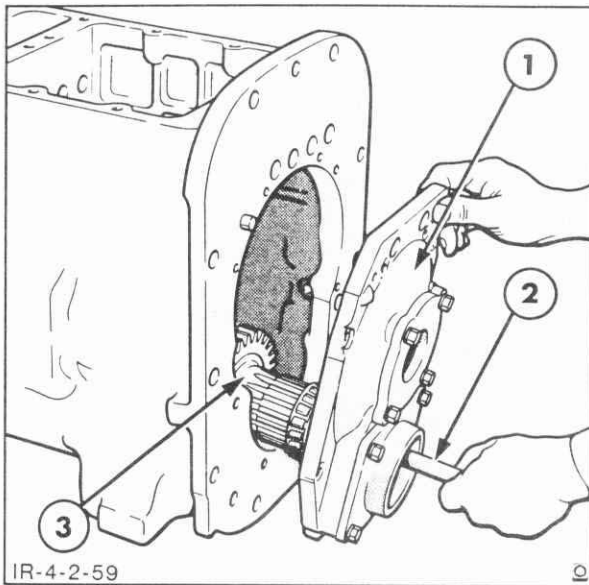
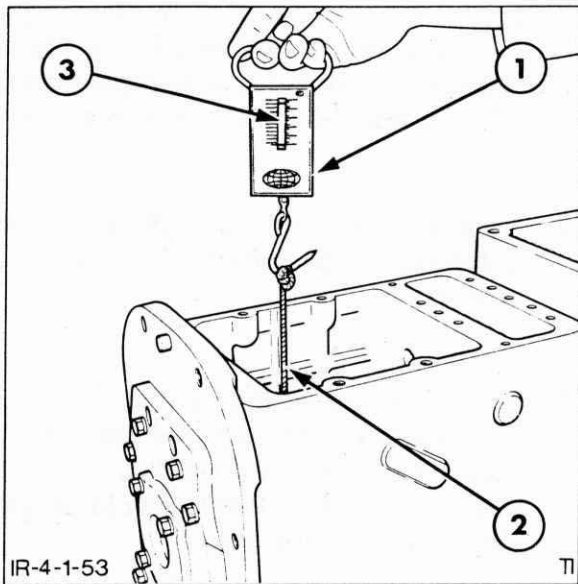

Figure 4-153
Figure 4-154
5. Insert a suitable rod through the bearing cap hole and into the countershaft assembly, Figure 4-153.
9. Using a suitable length of cord and a pull scale as shown in Figure 4-154, wrap the cord around the countershaft just ahead of the helical gear, Figure 4-153. Ensure that the cord does not overlap.